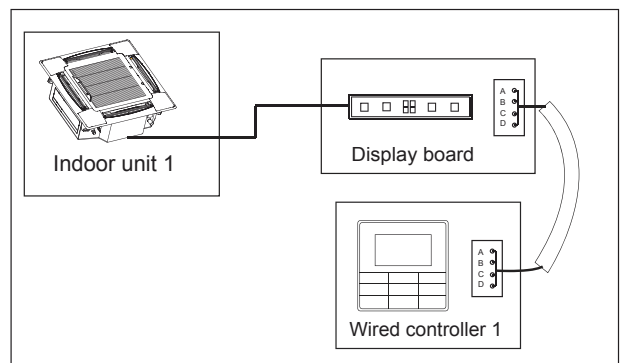

Figure 6.9
- ♦ Use 1 wired controller to control 1 indoor unit (see Figure 6.9).